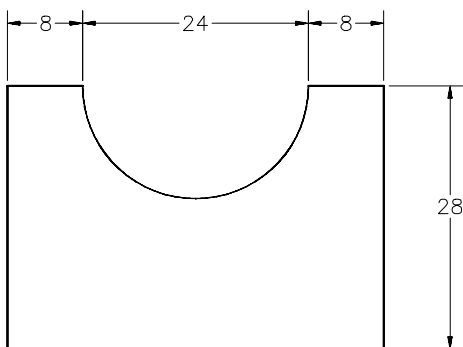

Figure 26-111 The region to be extruded
10. Draw the object shown in Figure 26-111 and then convert it into a region.